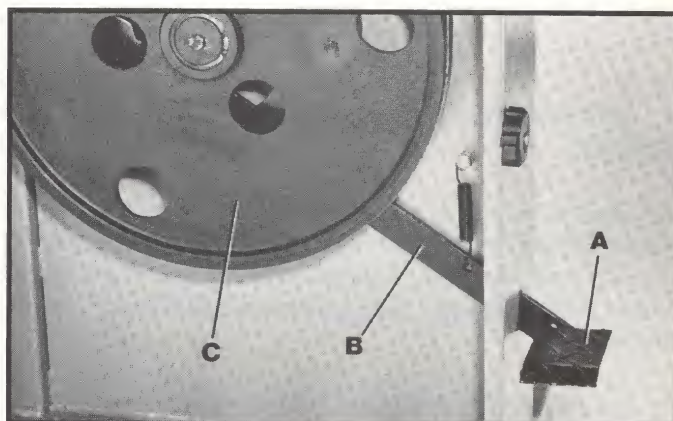

Fig. 8
After the bandsaw switch is turned off, the brake pedal (A) Fig. 8, should be depressed to stop the blade. When the brake pedal (A) is depressed, the pedal arm (B) activates a brake shoe against the inside rim of the lower wheel (C). The harder the brake pedal (A) is depressed, the faster the blade will stop. **WARNING: A COASTING BLADE CAN BE DANGEROUS. AFTER COMPLETING CUT, TURN MACHINE OFF AND APPLY BLADE BRAKE TO STOP COASTING BLADE.**